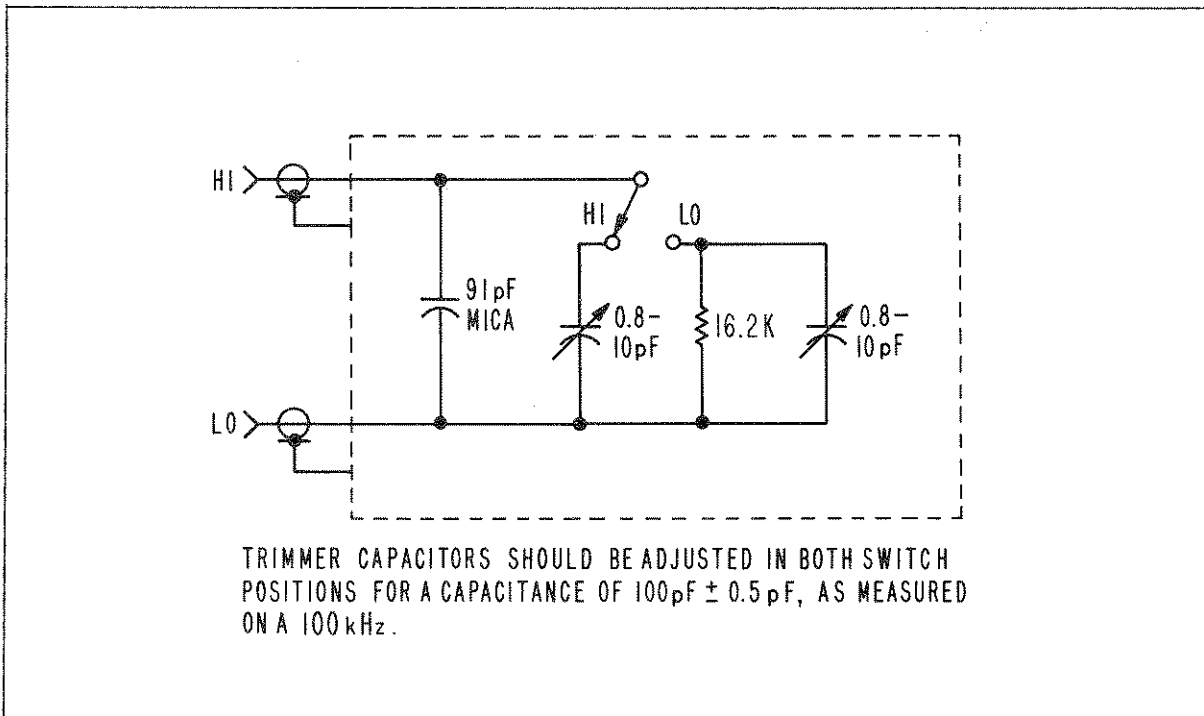

Figure 4-3. High-Q/Low-Q Standard
A. High-Q/Low-Q Test. Set the 72C to the 100 pF range, zero, and connect the High-Q/Low-Q standard to the instrument. (The schematic diagram of a High-Q/Low-Q standard that is suitable for use at 100 kHz is shown in Figure 4-3.) Measure the capacitance in both the HI and LO Q position of the standard and compare the results. If they differ by more than 0.5%, the high-low Q adjustments need readjusting.